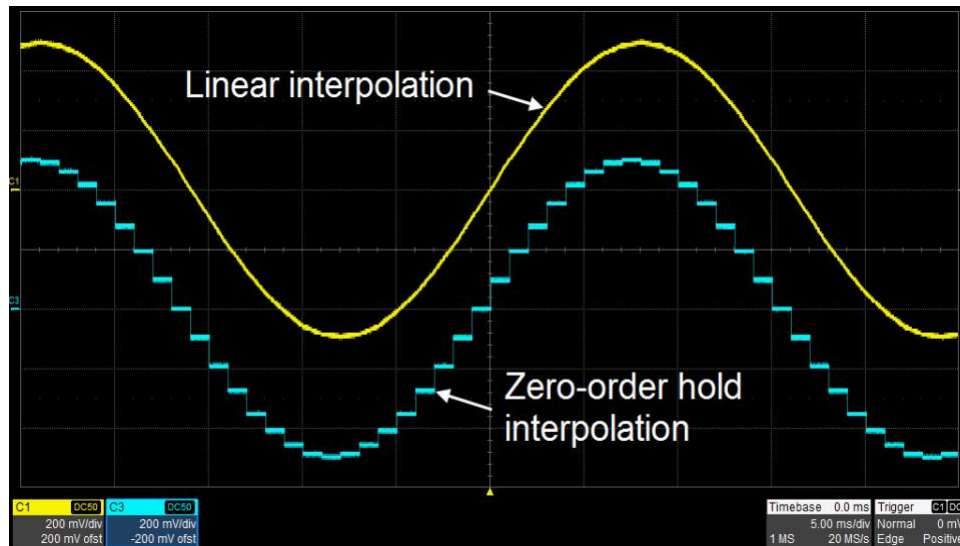

Figure 2-19 Comparison of "0-order hold" and "Linear" Interpolation Modes
**Interpolation** in the operation menu. Figure 2-19 shows the output waveform comparison of a 32-point sinusoidal arbitrary wave with "0-order hold" interpolation and "linear" interpolation.